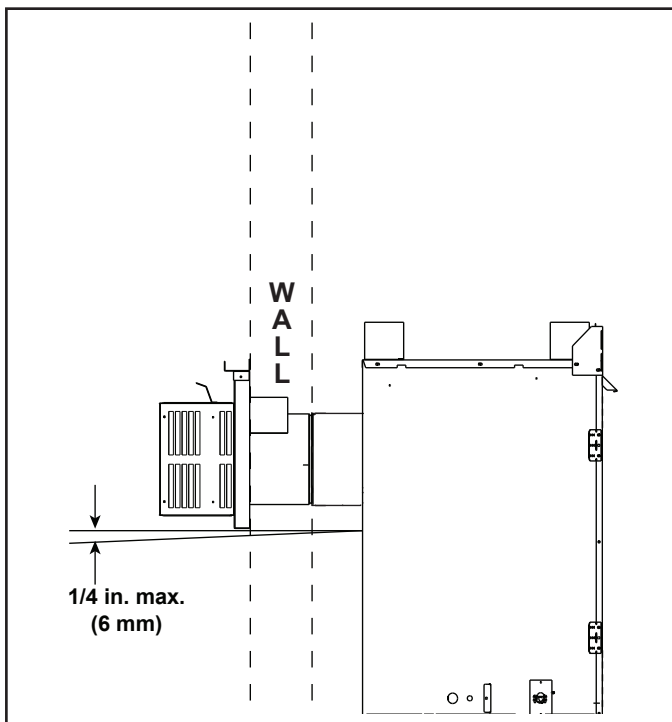

Figure 4.10 Vent Cap - Generic Fireplace Shown
- Horizontal termination cap should have a 1/4 inch downward slant to allow any moisture in cap to be released. See Figure 4.10.